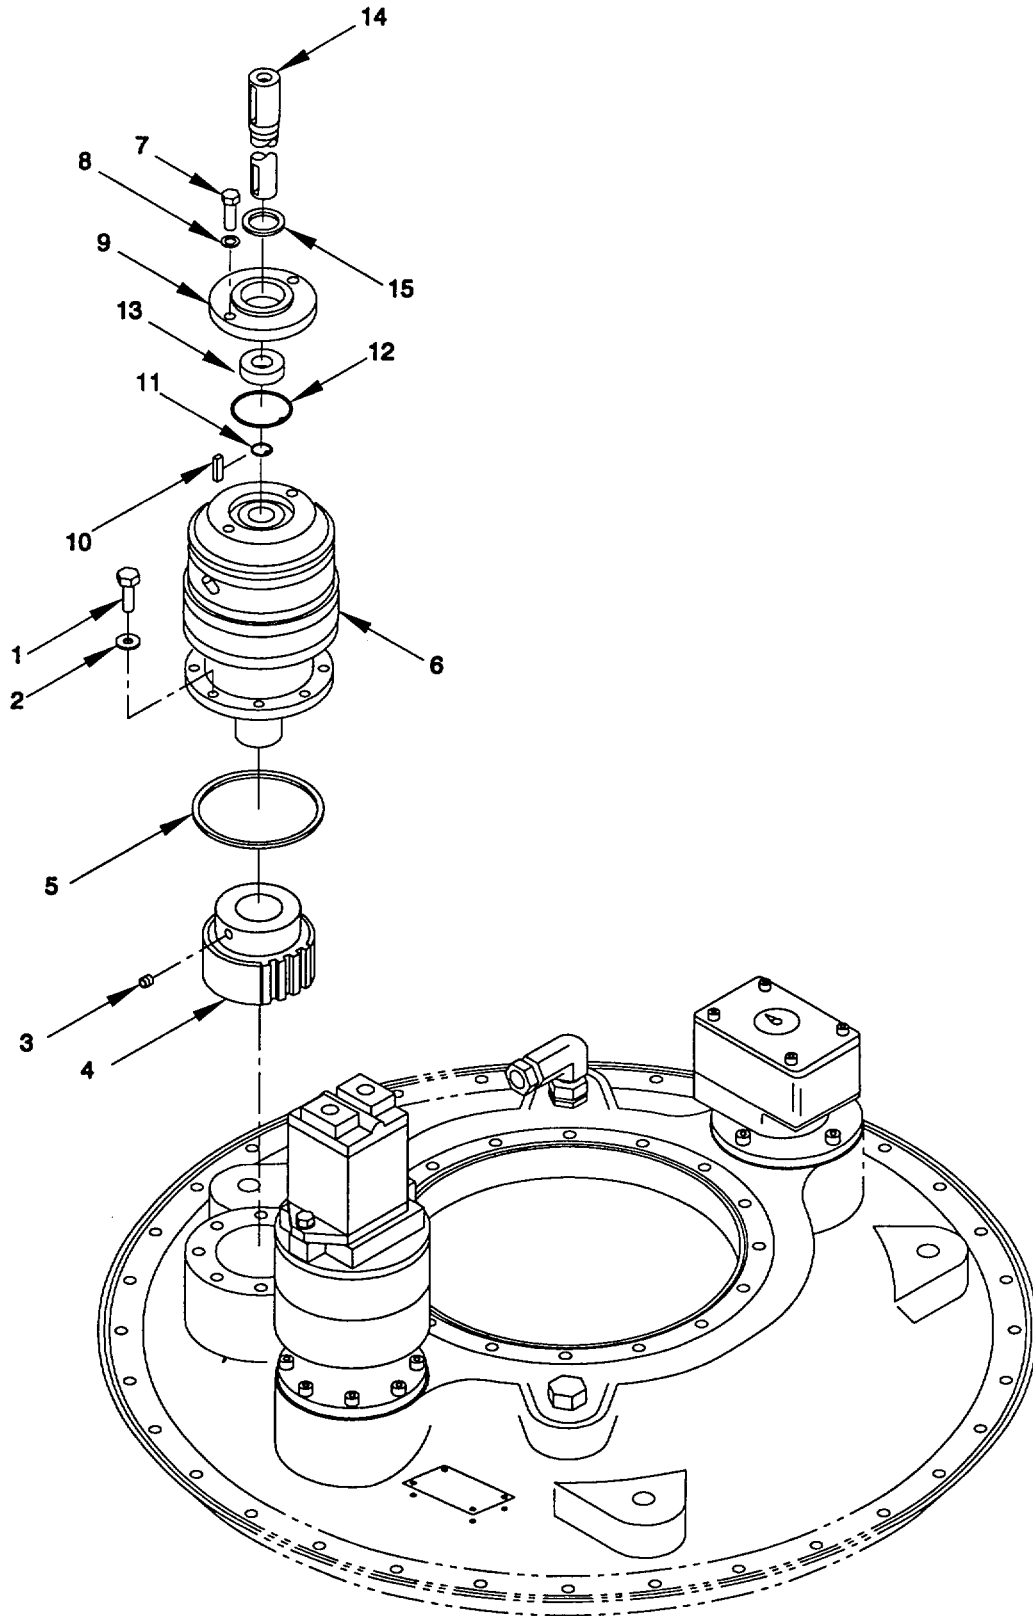

Figure 3-11. Planetary Gearing, Emergency Steering, Pump-Jet, Remove/Install.
a. Remove. (figure 3-11)
- (1) Remove eight capscrews (1) and collect eight lockwashers (2). Lift planetary gearing (6) from pump-jet.
- (2) Loosen set screw (3), remove gear (4), collect Preformed packing (5). Discard Preformed packing in appropriate container. Retain gear (4) and set screw (3).
- (3) Remove two capscrews (7) and collect lockwashers (8) to free cover assembly (9). Collect key (10).
- (4) Remove shaft clip (11) and bore clip (12). Remove bearing (13), shaft (14), and seal (15) Discard bearing (13) and seal (15) in appropriate container.
b. Install. (figure 3-11)
- (1) Transport planetary gearing replacement (6) to a suitable work area.
- (2) Clean gear (4), cover (9), shaft (14) and mounting surfaces with solvent and brush.
- (3) Install replacement seal (15) and shaft (14) into cover (9). Install replacement bearing (13) onto shaft (14).